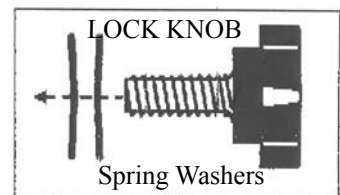

Figure 3
2. Remove the Shipping Bolt and replace it with the **Lock Knob** making sure that the conical spring washers are facing concaved sides towards each other (see figure 3)